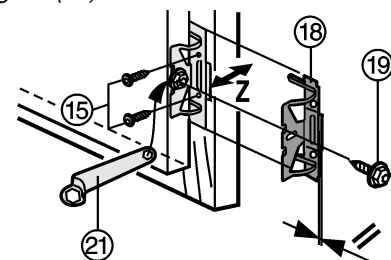

Fig. 25
- ▶ Screw mounting bracket Fig. 25 (18) with hexagon screw Fig. 25 (19) into the pilot holes in the appliance door.
- ▶ Screw the appliance door to the unit door with screws Fig. 25 (15) passed through the mounting brackets Fig. 25 (18).
- ▶ fit a 2nd pair of mounting brackets Fig. 25 (18).